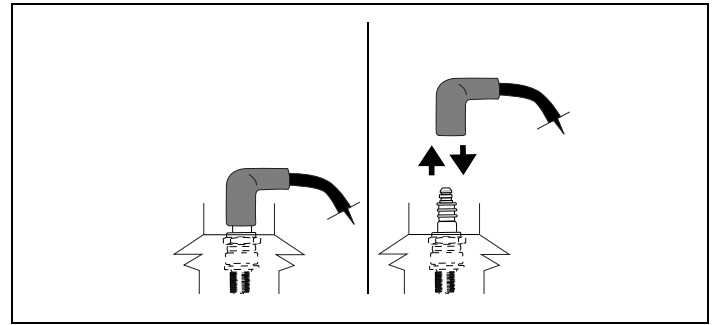

Figure 28. Disconnecting/Connecting Spark Plug
- Carefully disconnect spark plug wire and keep it away from spark plug. See Figures 28 and 29.